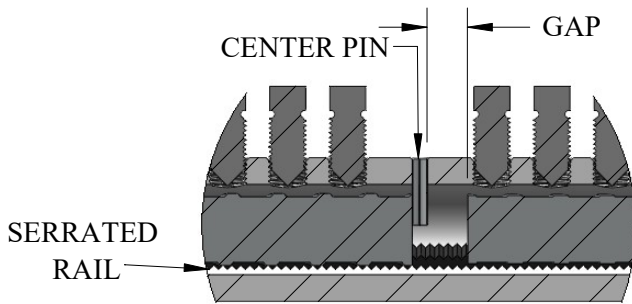

Figure 3 - Detail A
Step 3: Insert rebar into nVent LENTON Connect coupler until contact is made flush with the center stop pin or with a maximum gap as shown in Figure 3.